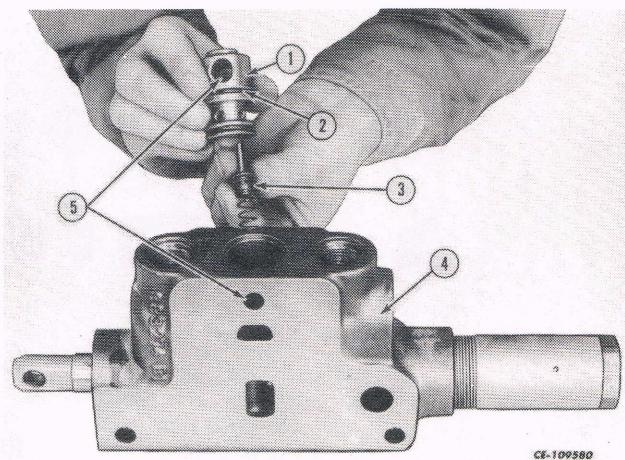

Fig. 49
8. Remove the check poppet retainer snap ring. To remove the retainer and check poppet, pry up on the flange of the retainer and check the parts for wear. Replace both "O" rings. See Fig. 49.